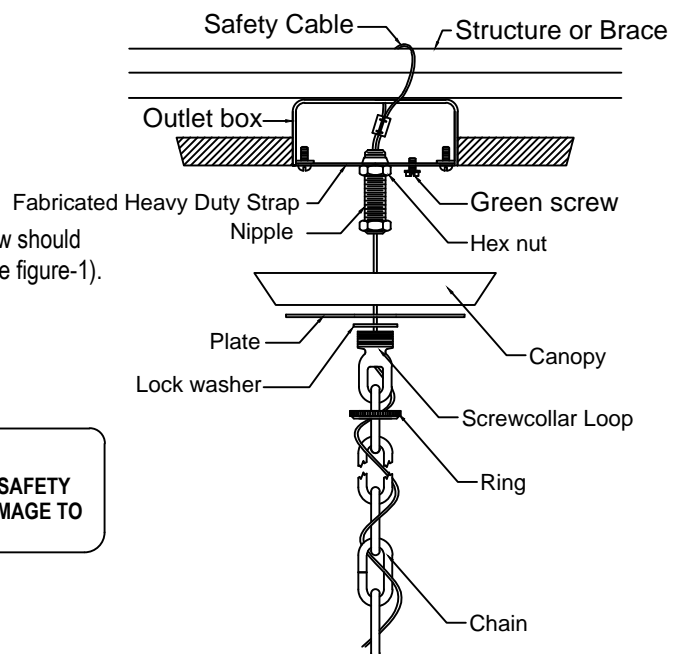

FIGURE-1
1. Attach the fabricated heavy duty strap to the outlet box. (The green screw should face the floor). Attach the safety cable to the building structure or brace (See figure-1).